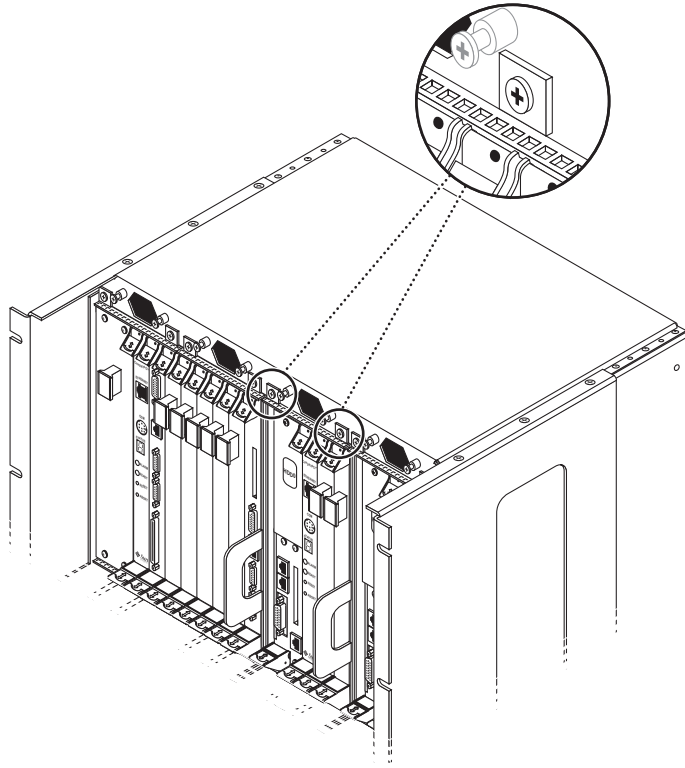

FIGURE 4-5 Tightening the Screws at the Top of a Netra ct 400 Server
- If you are installing a Netra ct 400 server, tighten the *two* black captive screws at the top of the server (FIGURE 4-5).